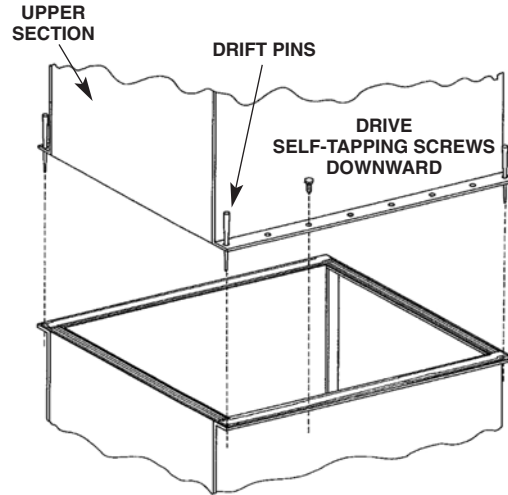

Figure 19 – Mating fan/coil section to basin section
Lower the fan/coil section to within several inches (centimeters) of the basin vertical posts, making sure the two sections do not touch and the sealer is not disturbed. Place drift pins (see Figure 19) in at least (3) of the corner mounting holes and gradually lower the fan/coil section into place using the drift pins to guide the section down accurately onto the mating vertical posts. Place washers, nuts and bolts in all four corner bolt holes. Then continue to install the rest of the washers, nuts and bolts on the remaining vertical posts.